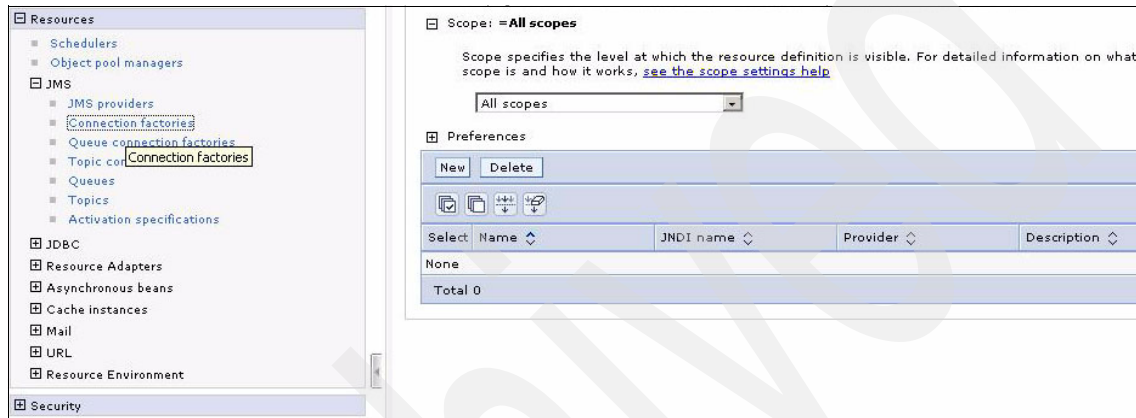

Figure A-36 Connection factories
1. From the WebSphere administrative console, click **Resources** → **JMS** → **Connection factories** (see Figure A-36).